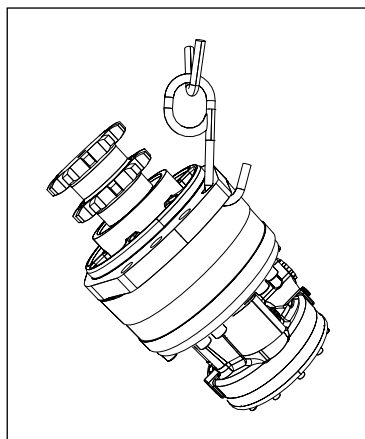

Fig. 14: Hoisting a motor with a hook
- ▶ Insert the hook into one of the mounting holes of the flange, the motor may then be lifted as indicated in Fig. 14.